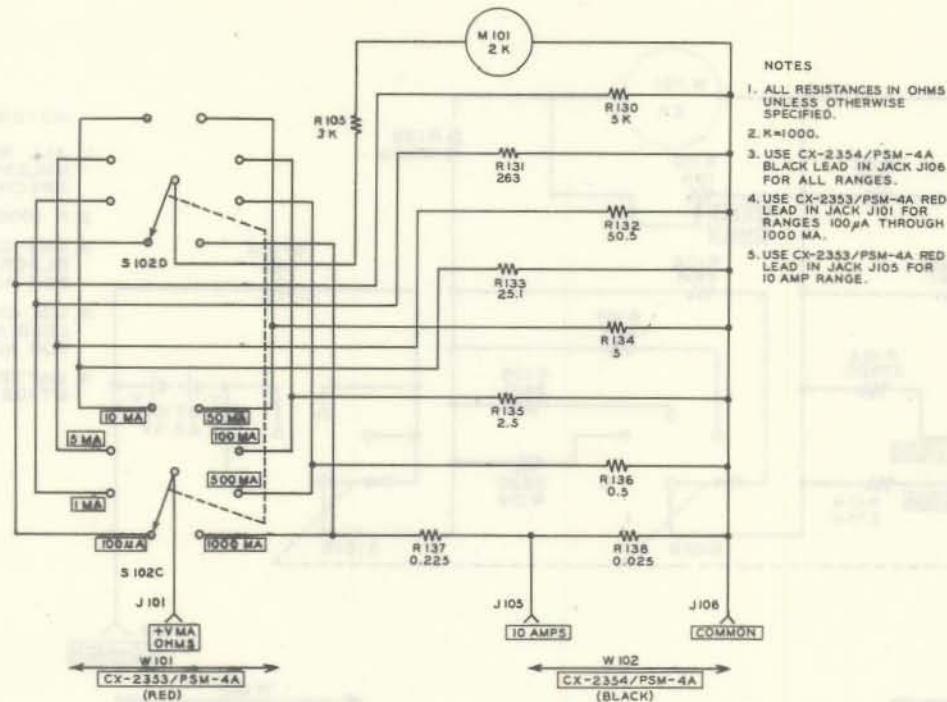

Figure 2-9. DC Microammeter, Milliammeter, and Ammeter Schematic Diagram.
**d. DC CURRENT MEASUREMENT CIRCUIT.** (See figures 2-9 and 6-9).—DC current is measured with the portion of Multimeter ME-48A/U circuits shown in figure 2-9. The overall schematic diagram, of which this is a part, is shown in figure 6-9. Each range for current measurement uses a separate shunt, and the circuit current which is being measured passes through the meter circuit and through the shunt in parallel. Only a portion of the total current passes through the meter movement. The division of incoming current is in inverse proportion to the resistance of the two parallel paths. Resistor R-105 is in series with meter movement M-101, and effectively increases the meter resistance to 5000 ohms. When 50 microamperes pass through the armature of the movement, the pointer indicates full scale.
(1) 100 uA RANGE.—When you set range switch S-102 at 100uA, you connect the circuit as shown in figure 2-9. Resistor R-130, 5000 ohms, is in parallel with the 5000 ohm meter circuit, so any incoming current will divide with one half passing through the meter movement, M-101, and the other half passing through the parallel path. Meter M-101 indicates the total current on its 100 microampere range. The equivalent circuit resistance is 2500 ohms, and 100 microamperes of current passing through 2500 ohms of resistance causes a voltage drop of 250 millivolts across the instrument circuit.
(2) 1 MA RANGE.—When you set range switch S-102 at 1 MA, you connect resistor R-131, 263 ohms, in parallel with the meter circuit. The equivalent circuit resistance is 250 ohms. When 1 milliamperes of